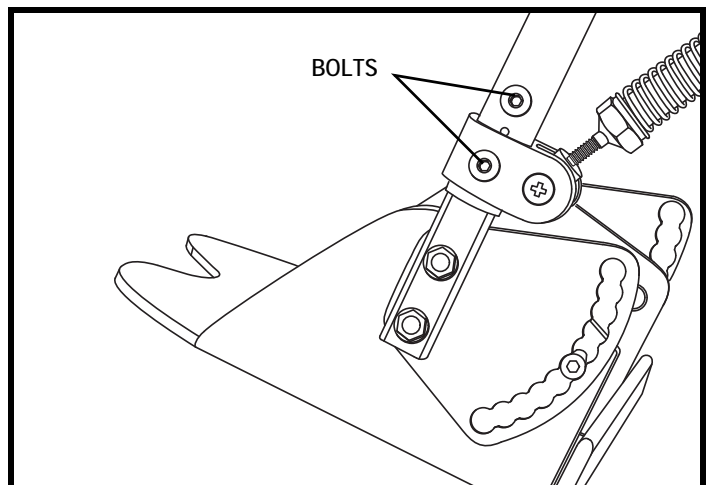

Figure 32. Kids FAST Leg Length Adjustment
1. Use a 5/32-in. hex wrench to loosen the two (2) bolts in each adjustment block. **See figure 32.**